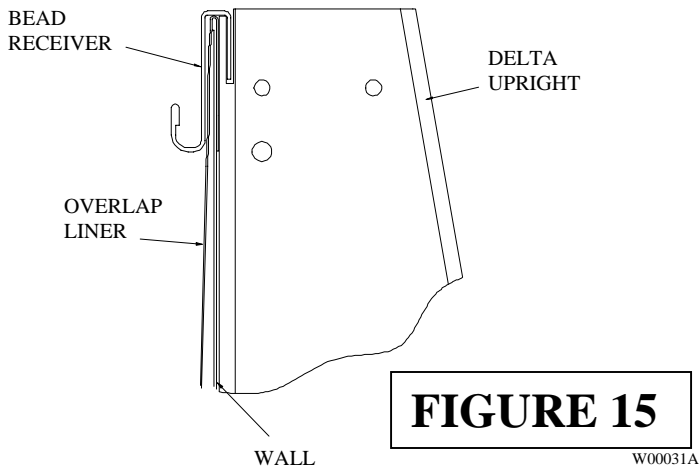
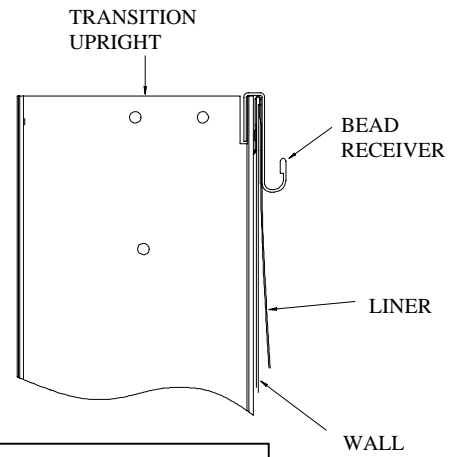

FIGURE 15
FIGURE 16
Step 14: See Figure 14, Detail 14A, Figure 15 and Figure 16. Place the liner over the edge of the wall. Make sure the overlap is equal around the outside of the pool wall. Cut the liner into 2 inch pieces and center the 1 1/2 inch pieces of the liner interlock over the liner at each upright. Place the bead receiver over the liner interlock and liner as shown, to secure the liner in place.